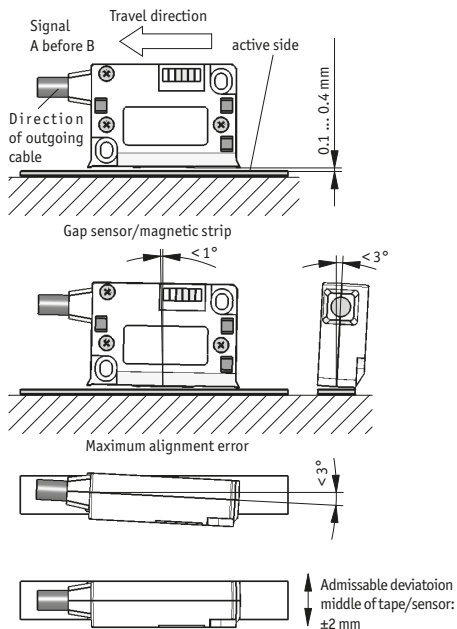

Fig. 6: Definition of the counting direction with magnetic strip and assemblage sensor/magnetic ring, gap measure, tolerances
- Observe the correct alignment with regard to the counting direction (fig. 6). This does not apply if the counting direction can be reversed in the electronic interpretation (e. g. in SIKO's magnetic-strip displays).